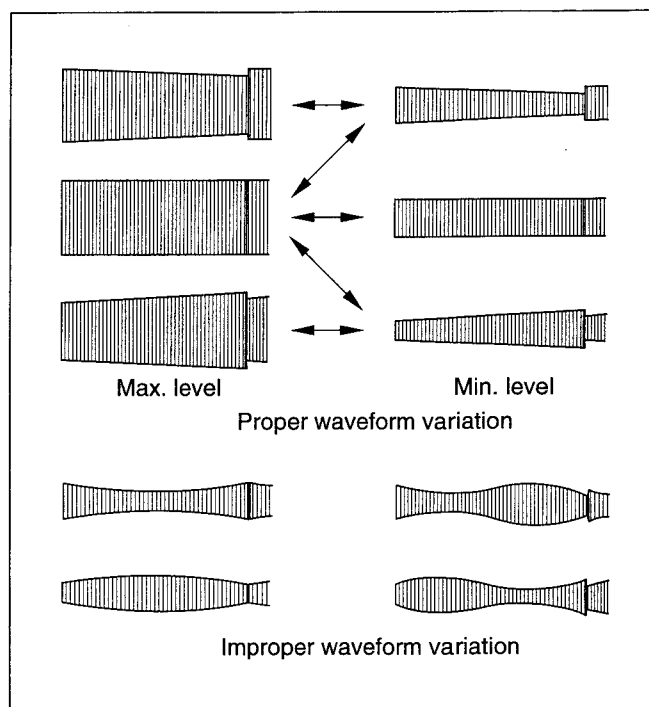

Fig. 2-5-1
- (1) Connect the oscilloscope to TP6 (PB FM) on the PRE/REC board assembly and connect the external sync output to TP11 (D. FF) on the PRE/REC board assembly.
- (2) Play back the alignment tape MHPE to observe the FM waveform.
- (3) During playback, press the tracking buttons (+, -) simultaneously to enter the tracking center position.
- (4) By adjusting the tracking, check that there is no apparent level drop in the FM waveform and that the waveform varies totally in parallel and with linearity. If required, perform the following adjustments. (Fig. 2-5-1)